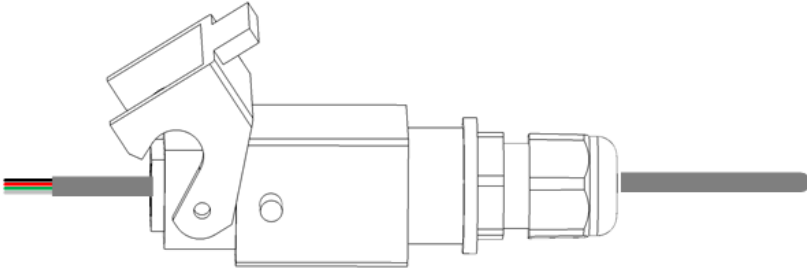

Figure 3: Threading the Cable
4. Place the cable through the protective cover (Figure 3).